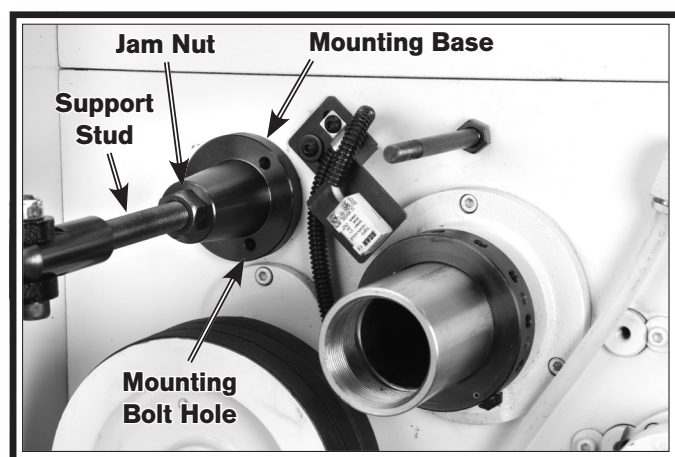

Figure 3. Base positioning on the headstock.
**Note:** Depending on date of lathe manufacture, the mounting location shown in **Figure 3** may have been pre-drilled at the factory to mount the collet attachment base. If this is the case, remove the three fasteners that plug the holes and proceed to **Step 8**.
4. Put on your safety glasses, then using a 1/4" center punch and the base shown in **Figure 3** as a template, mark the three mounting bolt holes on the side of the headstock.
9. Thread the support stud approximately 1" into the base. Then, using a 19mm wrench, tighten the jam nut shown in **Figure 3**.